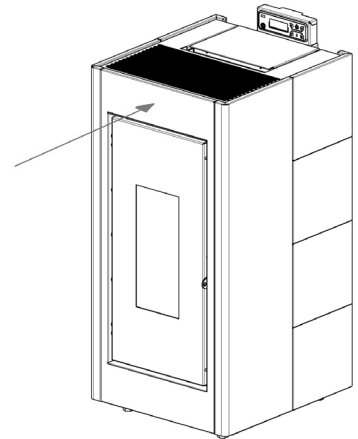

Fig. 40 - Position the front panel
- Position the front panel (see **Fig. 40**).